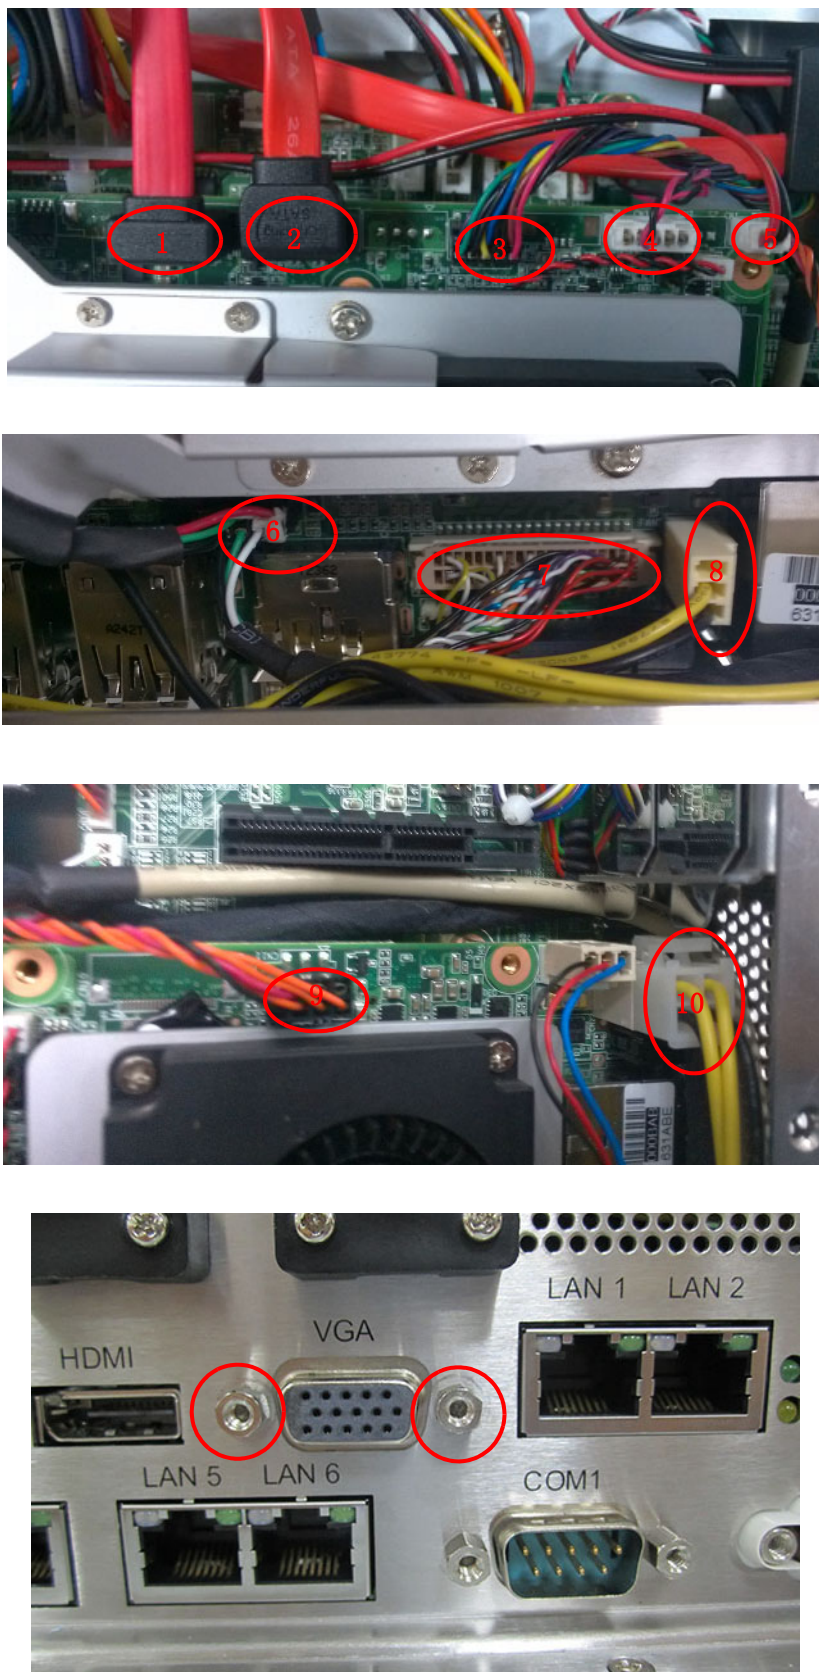

Figure 2.25
- Unplug the cables beside the IO as shown below, and remove the 2 hexagonal screws in VGA of I/O back plate. Then vertically pull out MIO board. (See Fig 2.25)